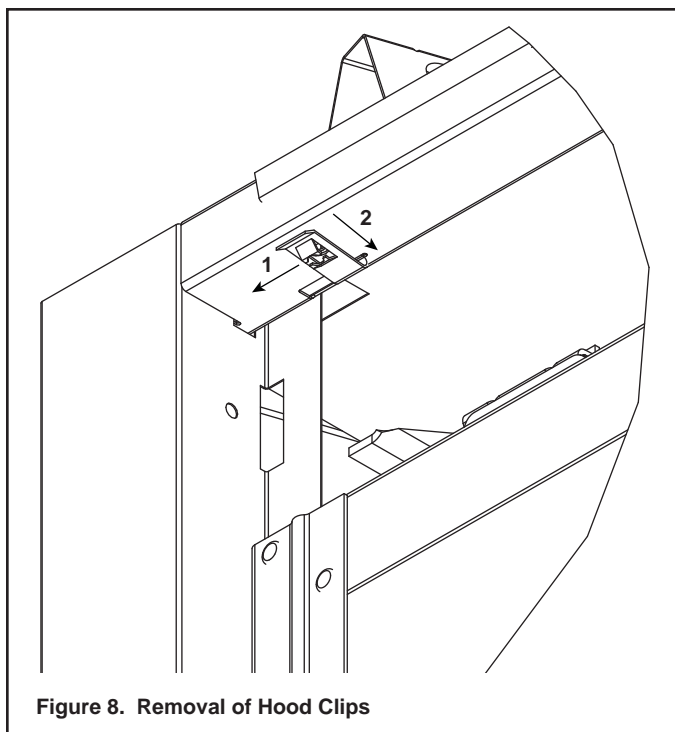

Figure 8. Removal of Hood Clips
1. Hood clips located in the upper corners of fireplace opening must be removed prior to door installation. Remove the hood clips using pliers. Slide them toward the outside and back into the fireplace. See Figure 8.